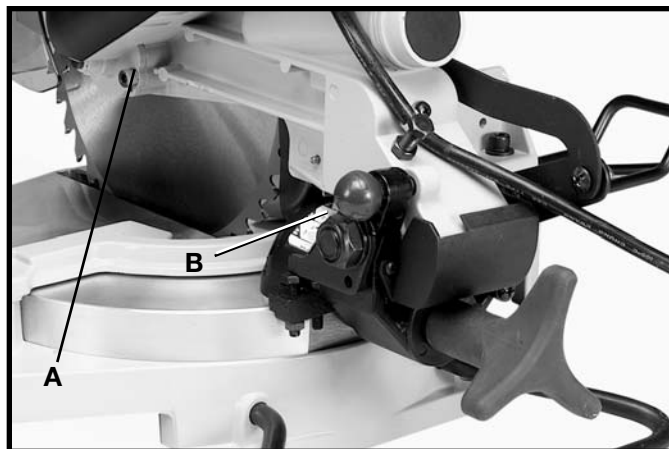

Fig. 34
When transporting the saw, the cuttinghead should always be locked in the down position. This can be accomplished by lowering the cutting arm (A) Fig. 34, and pushing in cutting head lock knob (B) until it engages with hole in cutting arm. **IMPORTANT: NEVER CARRY THE TOOL BY THE SWITCH HANDLE. THIS ACTION MAY CAUSE MISALIGNMENT. ALWAYS LIFT THE TOOL BY THE BASE OR THE CARRYING HANDLE.**